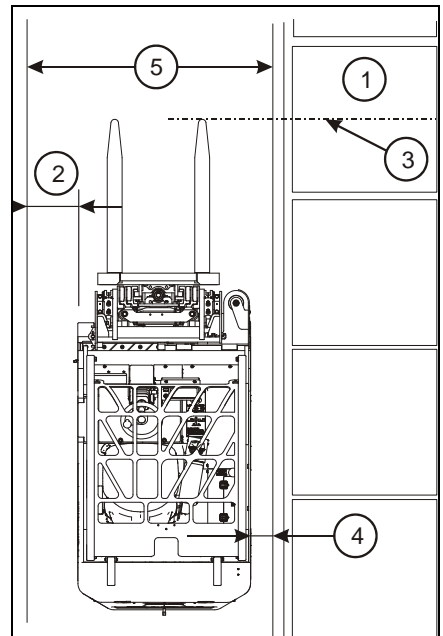

Figure 4-10: Setup - Load Pick Up
- Actual minimum aisle width will vary based upon application. **See Figures 4-10, item 5.**
1. Approach the side of the aisle that is nearest the load. **See Figures 4-10, item 1.**
2. For narrow aisles, straighten out the truck so it is approximately 14 in. **See Figures 4-10, item 2,** from the edge of the aisle opposite the load. For wider aisles, straighten out the truck so it is 2 in. **See Figures 4-10, item 4,** from the side of the aisle where the load is located.
- Drive forward until the front tips of the forks are even with the center of the pallet on the rack. See Figures 4-10, item 3.
Actual minimum aisle width may vary based upon application. See Figures 4-10, item 5. The following illustrations show standard 40 in. x 48 in. (W x L) pallets loaded on a rack with 96in. beams. Arrows show which direction to turn the steering wheel and to move the side shift
1. Approach the side of the aisle that is nearest the area where you will unload the forklift. See **Figures 4-10, item 1.**
2. For narrow aisles, straighten out the truck so it is 14 in., See **Figures 4-10, item 2,** from the edge of the aisle opposite the drop off point. For wide aisles, straighten out the truck so it is 2 inches from the side of the aisle where the load is located. See **Figures 4-10, item 4.**
4. Drive forward until the center of the load, See **Figures 4-10, item 3,** is aligned with the front edge of the rack opening. See **Figure 4-10.**